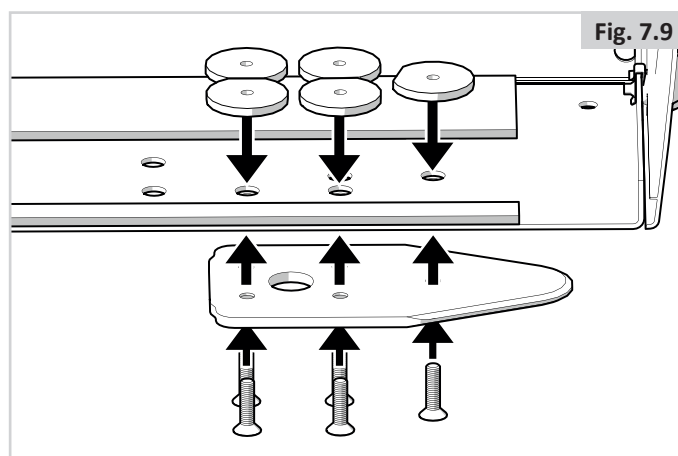

Fig. 7.9
4. Mount the five screws together with the spacer/spacers and the lock plate on the underside of the chassis box (Fig. 7.9).